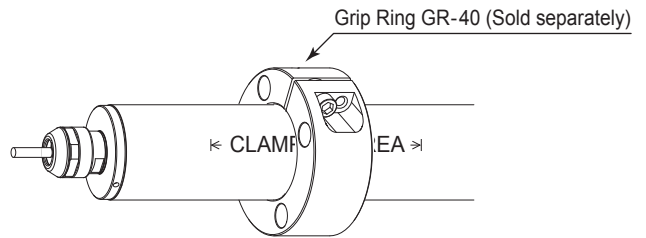

Fig. 14
* When installing a motor spindle, use a "Grip Ring GR-30 (sold separately (Fig. 14))" recommended. If the Grip Ring GR-30 (sold separately) cannot be used due to the restriction of dimension and space, install as shown in ② below.